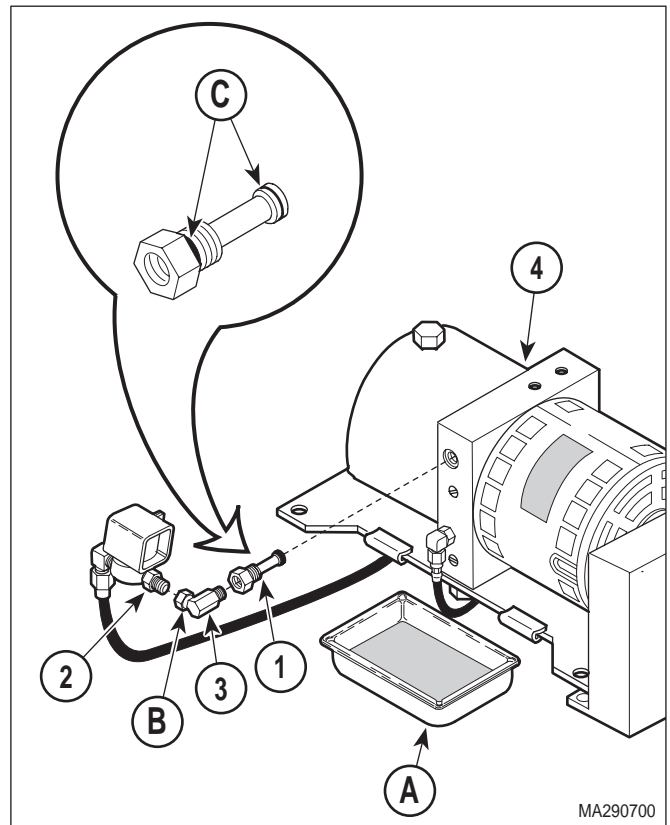

Figure 4-4 Down Functions Shuttle Valve Removal / Installation
- (3) Place rags or drain pan (A) under down functions shuttle valve (1, Figure 4-4).